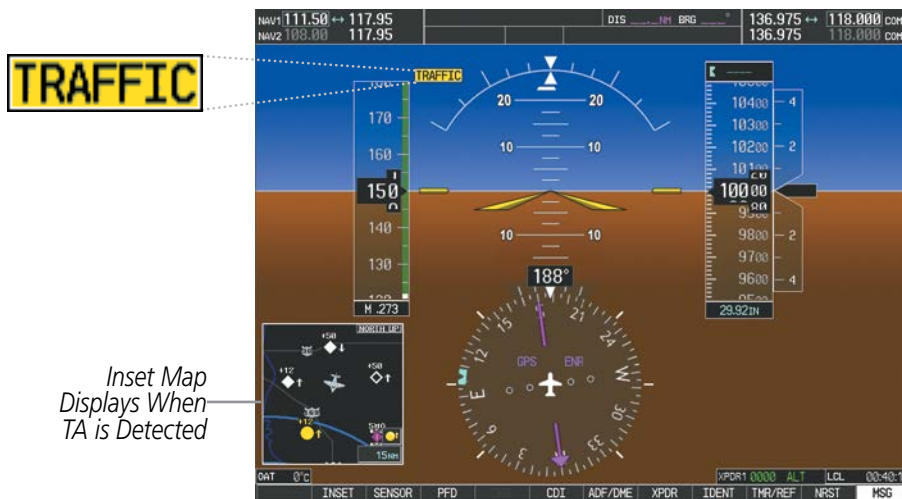

Figure 6-172 Traffic Annunciation (PFD)
- A 'TRAFFIC' Annunciation appears at the top right of the airspeed on the PFD, flashes for five seconds and remains displayed until no TAs are detected in the area (Figure 6-172).